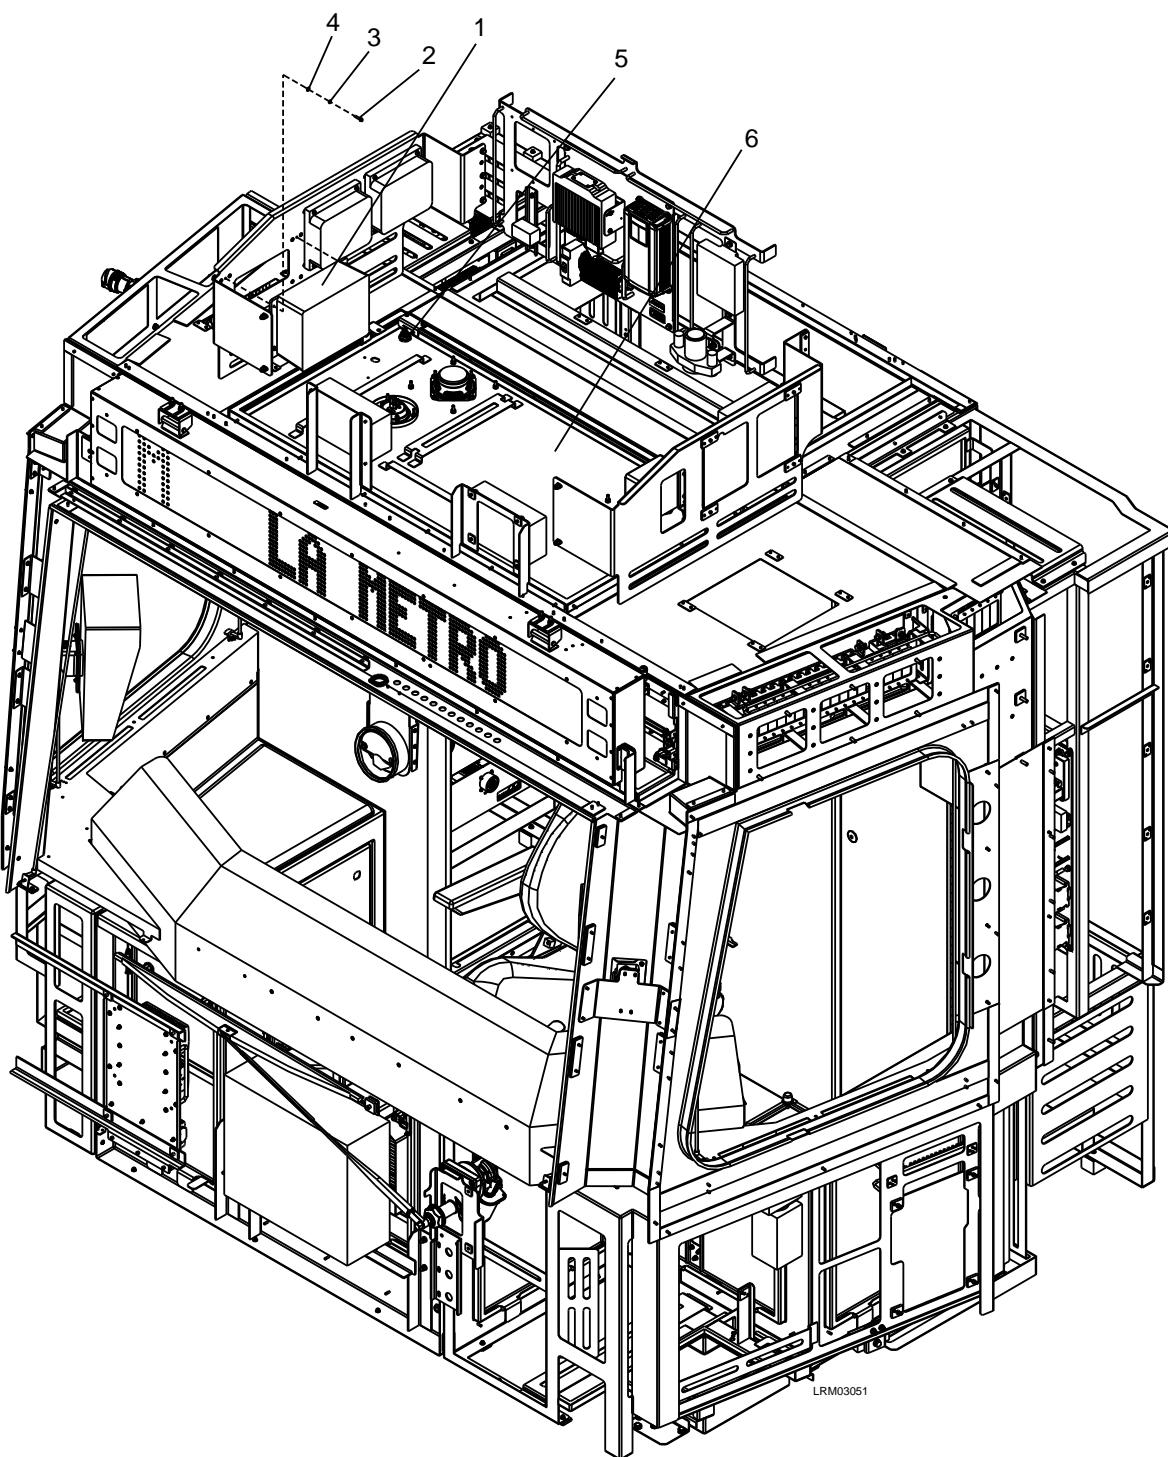

Figure 7-59: Ethernet Switch (Camera)
1. Unlock the two locks (5) and lower the cab ceiling panel (6) to access the Ethernet Switch (Camera) (1) and disconnect the electrical connectors. See Figure 7-59.
2. Remove the four M4 x 20 screws (2), M4 lock washers (3), and M4 plain washers (4).
3. Carefully remove the Ethernet Switch (Camera) (1).